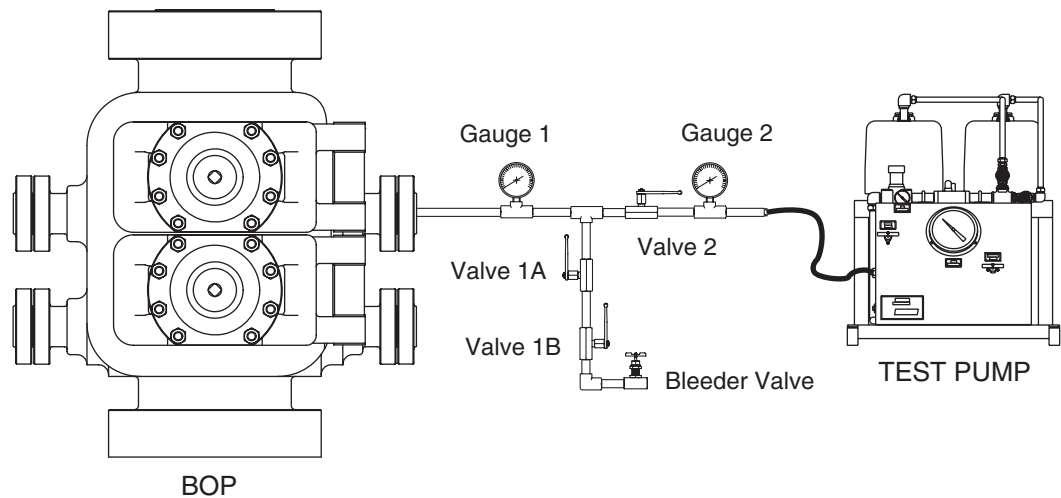

Figure 4-3. Recommended Field Wellbore Pressure Test Equipment Set-up
Connect the listed equipment as shown in Figure 4-3:
1. Close valves #1A and #1B. Open valve #2 (see Figure 4-3).